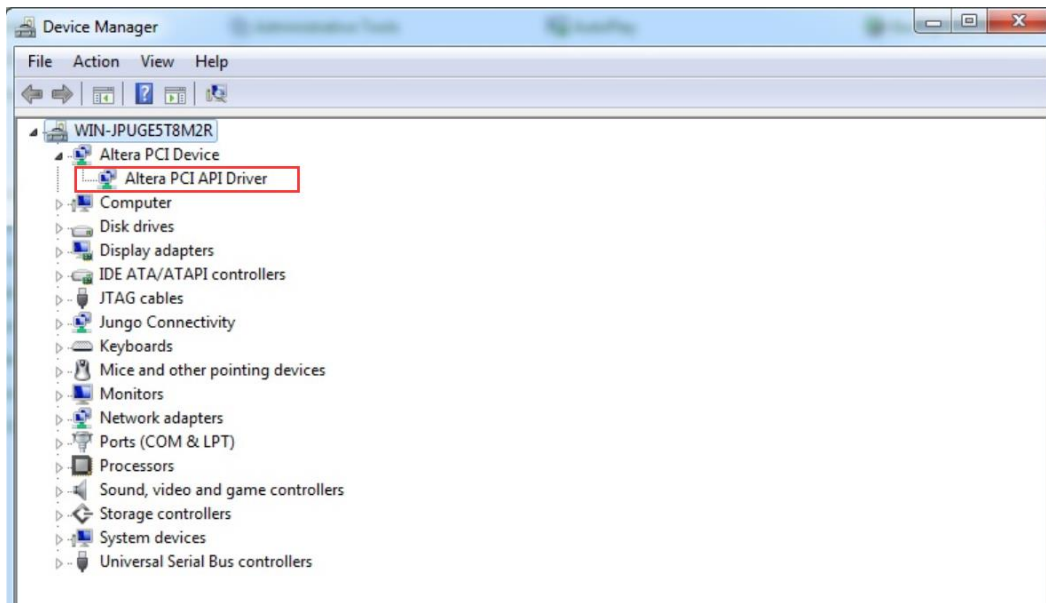

Figure 7-10 Screenshot for PCIe Driver
6. Make sure the Windows has detected the FPGA board by checking the Windows Control panel as shown in **Figure 7-10**.